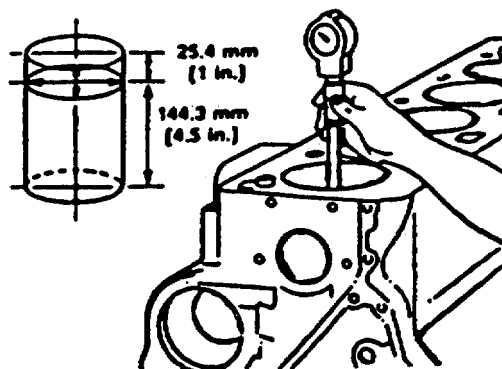

FIGURE 4-79. Inspecting Cylinder Bore.
4-14. Repair Cylinder Block Croup. (FIGURES 4-79 through 4-103)
- a. Inspect the cylinder bores for damage or excessive wear. Refer to FIGURE 4-79.
- b. Measure the cylinder bores as shown in FIGURE 4-79 and 4-80.